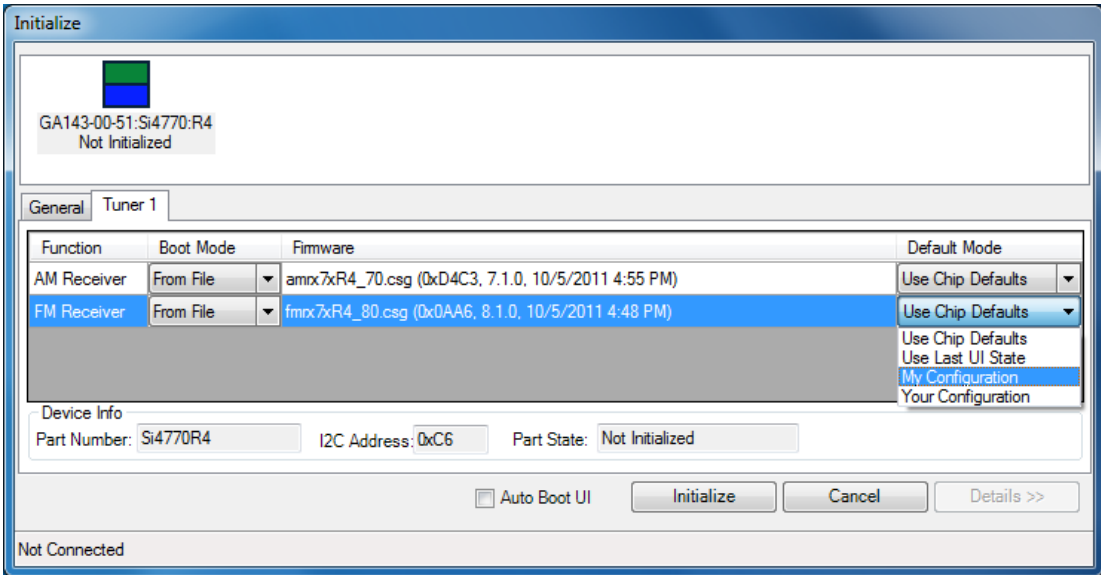

Figure 12. Saved Configuration State
1. Go to File → Initialize→ Tuner 1 tab as shown in Figure 12. The different states which were saved before are available in the default mode for user selection.